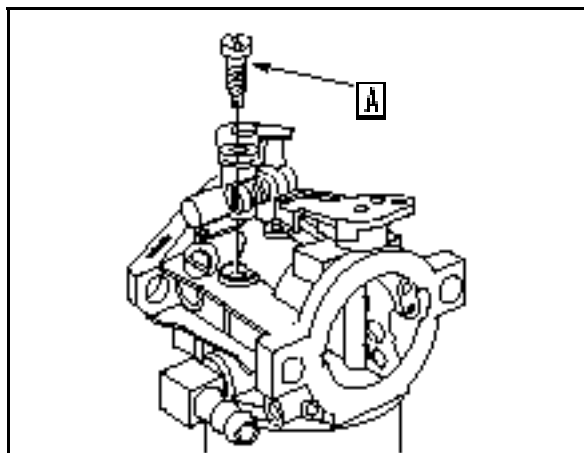

Fig. 103
14. Remove brass pilot jet ([A] Fig. 103) from carburetor body.